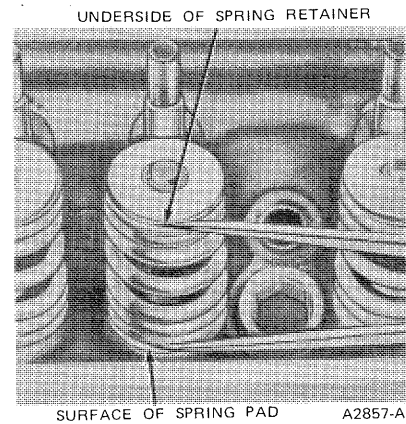

FIG. 73 Checking Valve Spring Assembled Height
3. Measure the assembled height of the valve spring from the surface of the cylinder head spring pad to the underside of the spring retainer with dividers (Figure 73). Check the dividers against a scale. If the assembled height is greater than specifications, install the necessary 0.030 inch thick spacer(s) between the cylinder head spring pad and the valve spring to bring the assembled height to the recommended height.